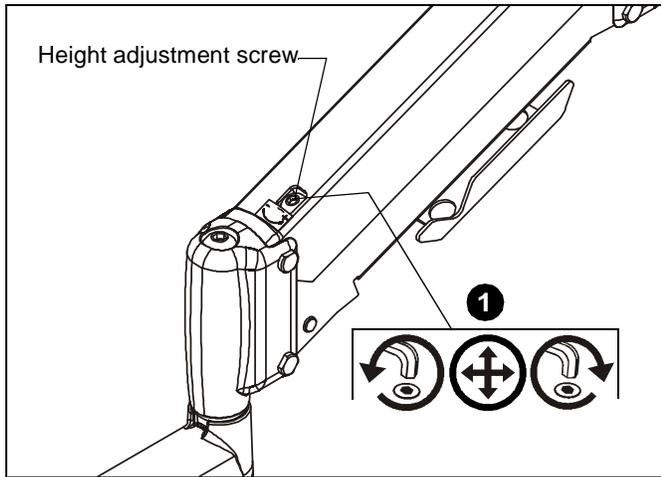

Figure 12
1. Using 5/32" hex key (R), slightly loosen or tighten the adjustment screw as necessary. (See Figure 12)